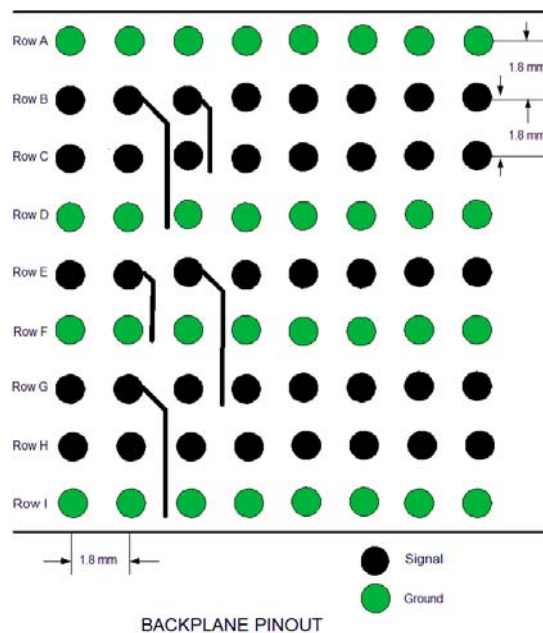
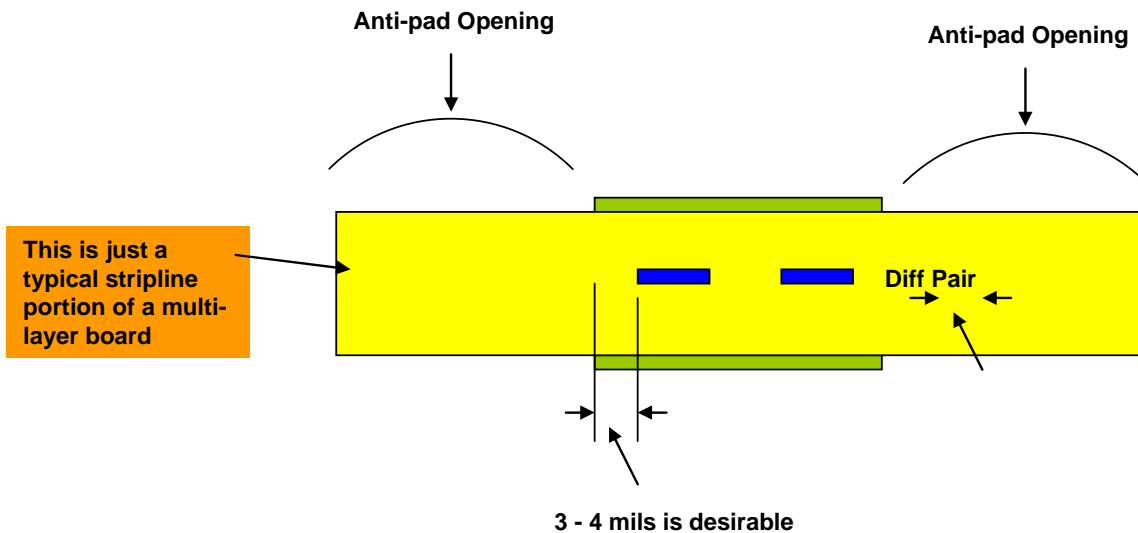

Figure 17. VIPER Backplane Hole Pattern – Single-Ended
Figure 18. Example of VIPER Daughtercard High-Speed Differential Routing
- 6.1 In the VIPER connector, the worst-case noise generated is wafer-to-wafer. To minimize noise, keep TX pairs in the same rows and RX pairs in the same rows as shown below in Figure 17. With this strategy, TX generated noise is minimized on RX signals. Figures 18, 19, 20 and 21 show the detailed pin mapping between the VIPER daughtercard and backplane.